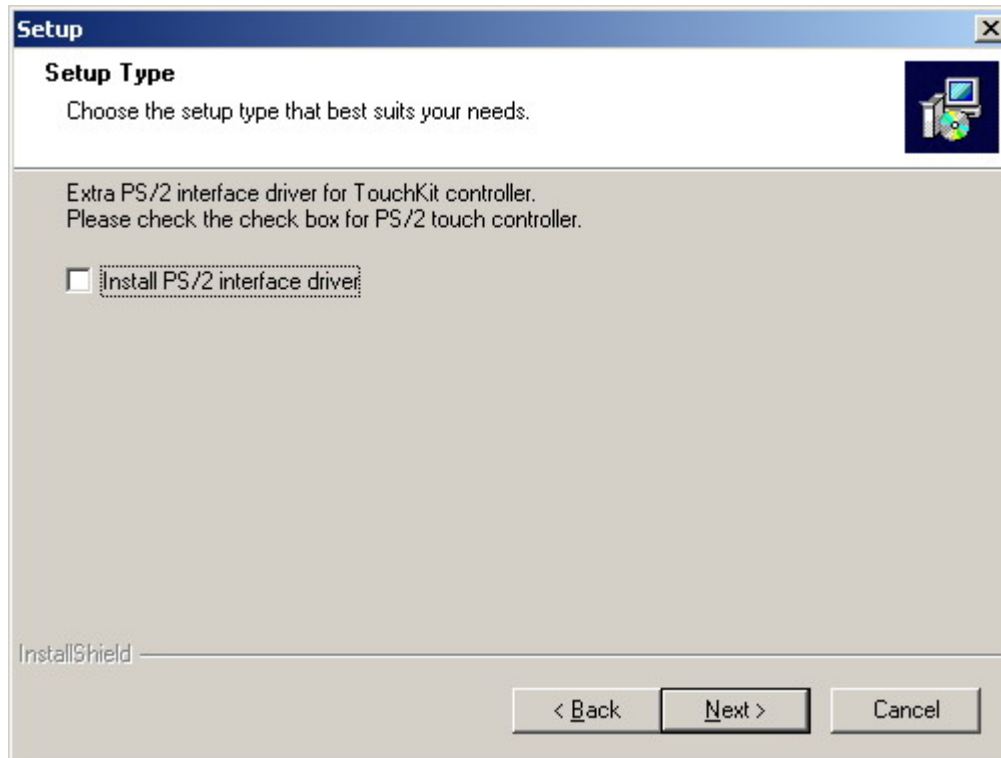

Figure 7-4: Install PS/2 Interface Driver
Step 7: An Install PS/2 interface driver screen appears (**Figure 7-4**). It is not necessary to install the PS/2 interface driver. To continue click **NEXT**.